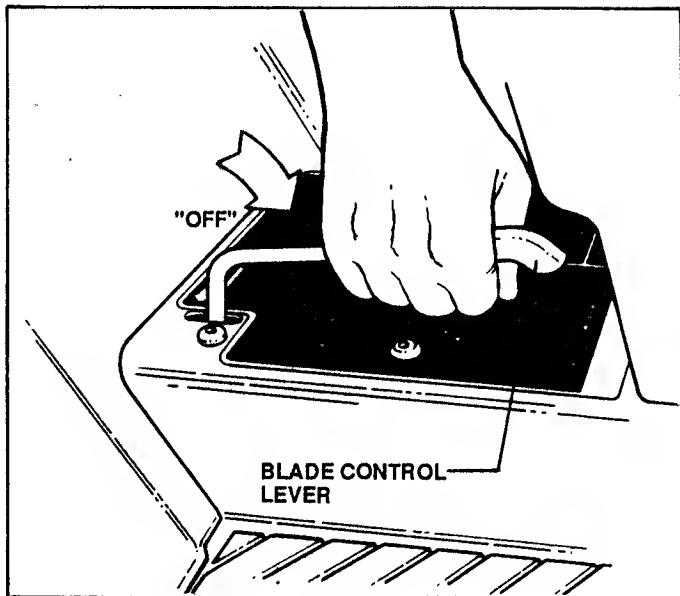
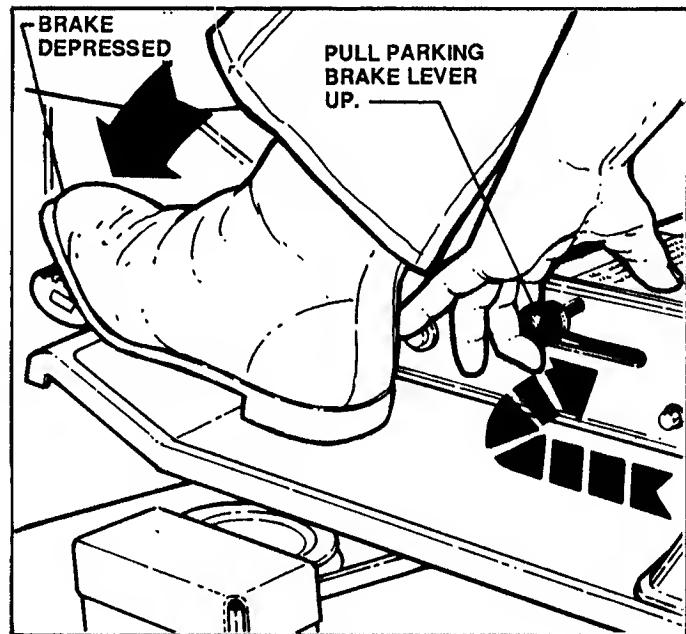

FIGURE 4
FIGURE 7
**MOWER BLADE: STOP MOWER BLADE** by pushing BLADE CONTROL lever downward to "OFF". See Figure 4.
1. PUSH BLADE CONTROL LEVER downward to "OFF" position (Fig. 4) and fully depress the CLUTCH/BRAKE pedal (Fig. 7), so that Safety Interlock System will allow engine to start.
Depress CLUTCH/BRAKE PEDAL. Pull PARKING BRAKE LEVER "UP" while releasing pedal. See Figure 7.